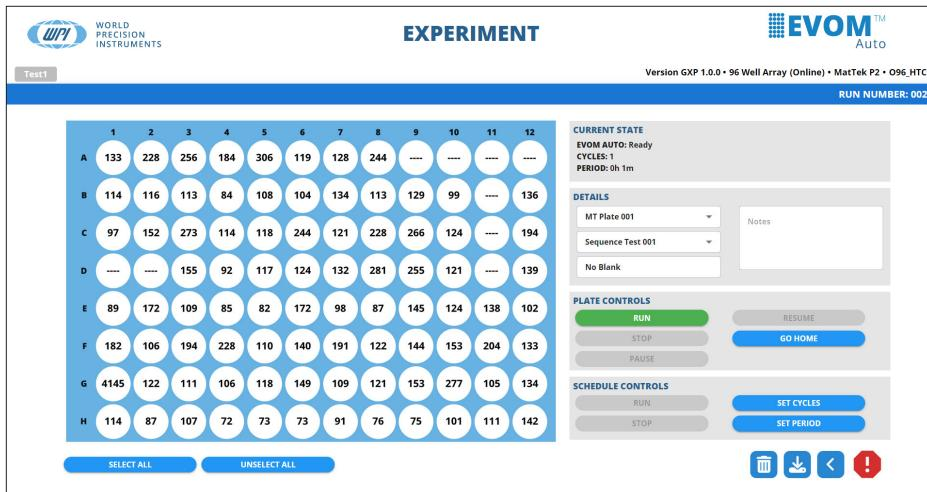

Fig. 81—The Experiment window appears. This example shows a 96-well plate option.
1. Select *Experiment* from the main menu. The *Experiment* window appears (Fig. 81).